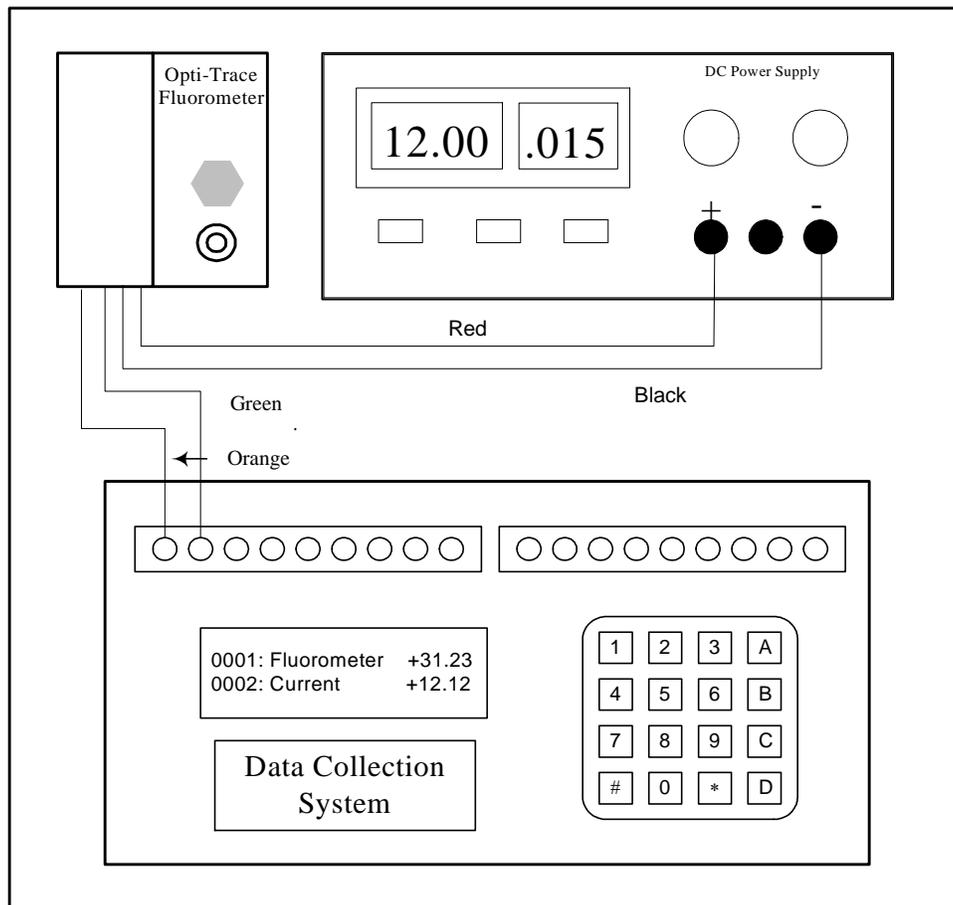

Fig 2: Representation of configuration for calibrating a Data Collection System to the Opti-Trace signal output.
- Connect the Opti-Trace fluorometer to the Power Supply and Data Collection System as shown in Fig 2 below.